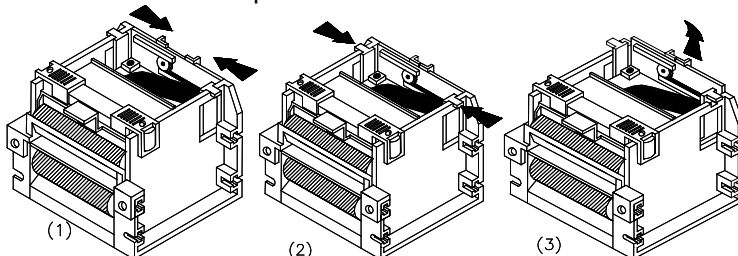

Fig. 3.3.1
4. Close the two label guides the way as figure 3.3.1(1).
5. Make apart the two retaining clips from the assembly, by gently pressing the clips the direction as figure 3.3.1(2), and afterward by lifting them a little.
6. Lift the guide board the direction as figure 3.3.1(3).